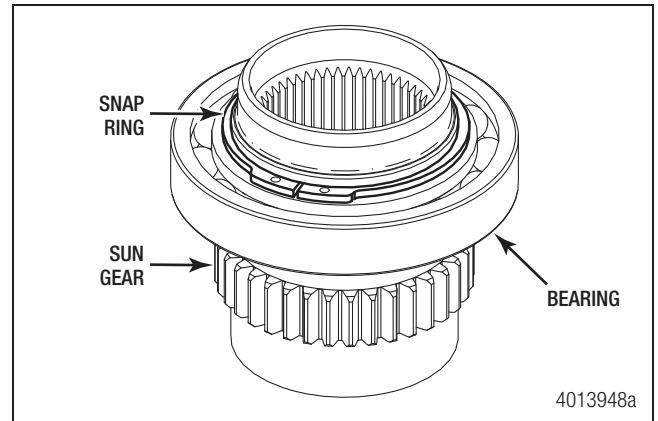
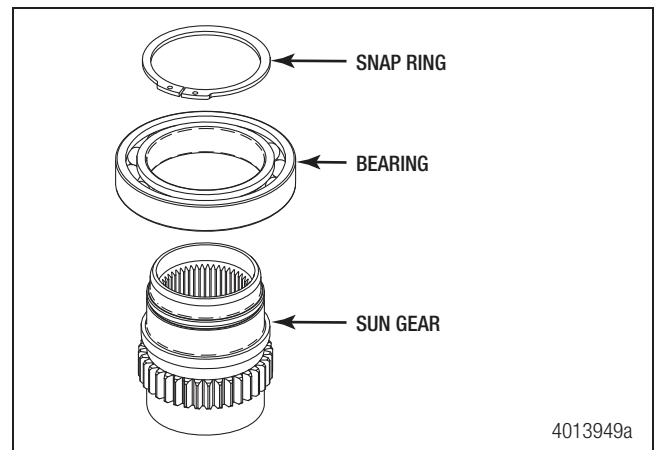

Figure 6.8
Figure 6.9
2. Remove the small snap ring and remove the bearing from the sun gear. Figure 6.8 and Figure 6.9.